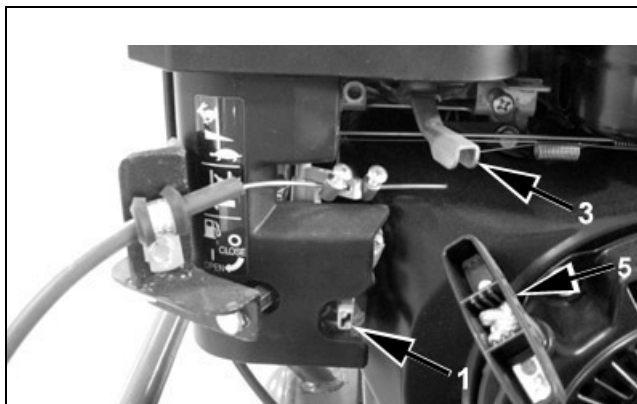

Figure 2 - Fuel Lever and Throttle Lever
4. Move the fuel valve lever (1) to the OPEN position. See Figure 2.
6. Move the throttle lever (3) away from the MIN position about 1/3 of the way toward the MAX position. See Figure 2.
7. Starting with recoil starter: Pull the recoil starter grip (5) lightly until you feel resistance, then pull briskly to start engine. Allow the starter grip to return gently to the engine, do not allow grip to snap back. See Figure 2.